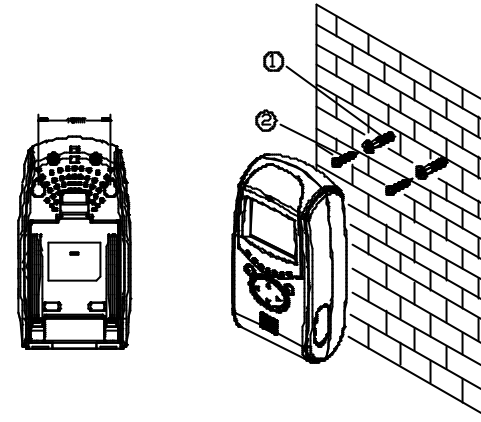

Fig. 12
1. Decide on the appropriate mounting location. Drill two holes 48mm apart in a line and fit wall plugs. (Fig. 12)
2. Insert fixing screws until almost fully home and hang the Monitor over these screws using the two keyhole slots in the rear of the Monitor. (Fig. 12)